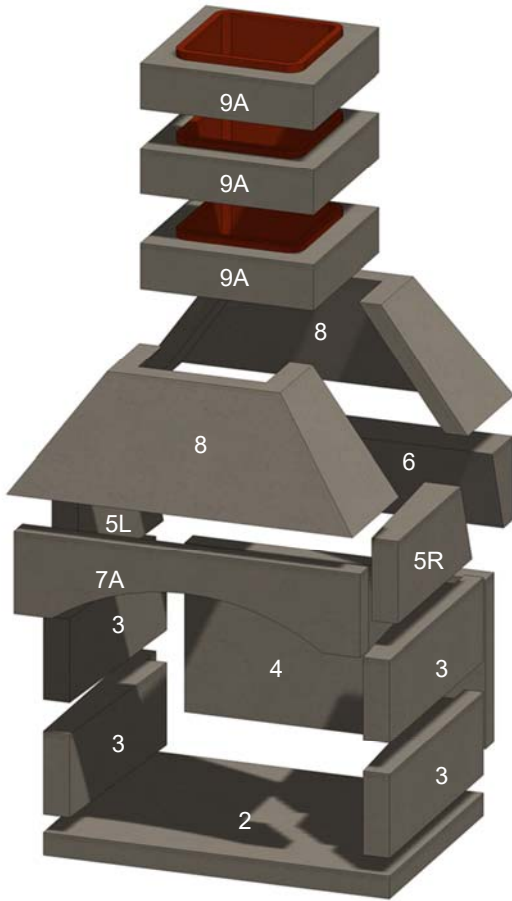
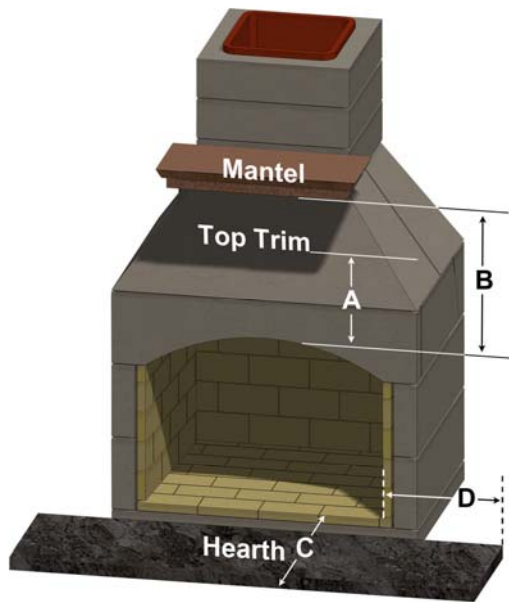

Figure 2. Fireplace Components
Figure 3. Clearances (Use with Table 2)
The fireplace is delivered as a kit with all components necessary to complete the installation. Component arrangements are shown in Figure 2. Components are listed in Table 1. Specifications and installation dimensions are shown in Table 2.
- A. Fireplace items shown in Figure 2 and listed in Table 1.
Table 2: Clearances (See Figure 3)
Note 5: Clay flue liners installed in flue section (item 9A, Figure 2) meet the specifications of ASTM Section C315-02.
Select a location in the home plans or outdoor living area where all the minimum distances, as shown in Table 2 and Figure 3 can be met. Proceed as follows. Numbers in () are item numbers from Table 1 and Figure 2. Ensure the base on which the fireplace is to be installed is a solid and level foundation and is composed of non-combustible material, such as concrete.
If this is your first Stone Age installation, it is suggested that you first assemble the components without mortar to familiarize yourself with how the components fit together. See Figure 2.
Ensure the Table 2 and Figure 3 clearances and distances are maintained. Ensure that the hearth and flooring under and in front of the hearth are made of fully non-combustible materials, not just a non-combustible floor covering.
If installing a mantel and side trim, particularly if it is wood or other combustible materials, ensure the minimum distances shown in Table 2 and Figure 3 are met.